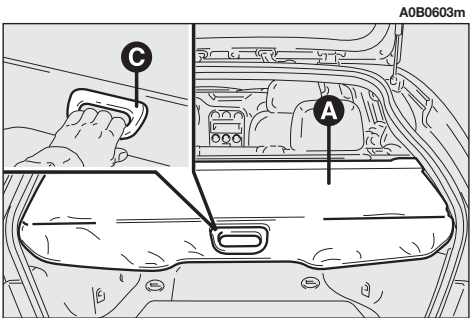
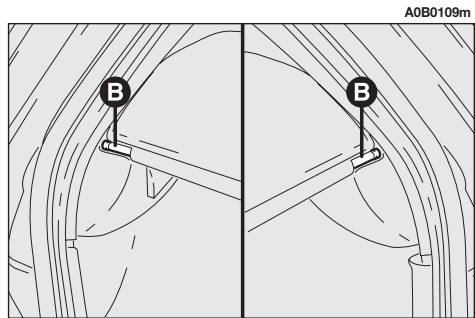

fig. 28
fig. 29
The luggage cover (**A-fig. 28**) can be rolled up and removed.
To roll, remove the two rear pins (**B-fig. 29**) from their housings.
**WARNING** Accompany the cover when rolling, holding it by the handle (**C-fig. 28**).
To put the cover back on, insert the ends of the reel in the respective housings, making sure that the catches are correctly locked forwards making the green symbols at the base of the actual button visible, then pull it by the handle (**C-fig. 28**) and hook the two rear pins (**B-fig. 29**).